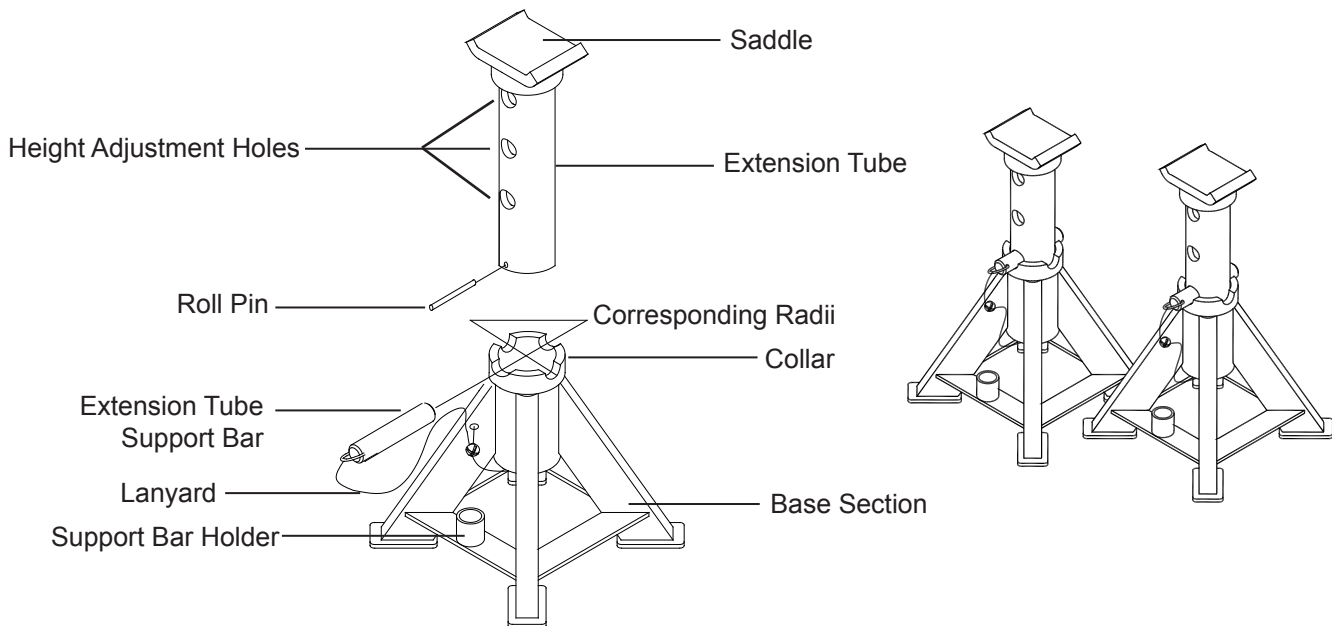

Figure 1 - Model BH5070 Components
2. Ensure that support bar is secure and nested across 2 corresponding radii (see figure 1) before loading. Insert support bar into the extension tube far enough to create equal distance of bar extending from the extension tube on both sides.